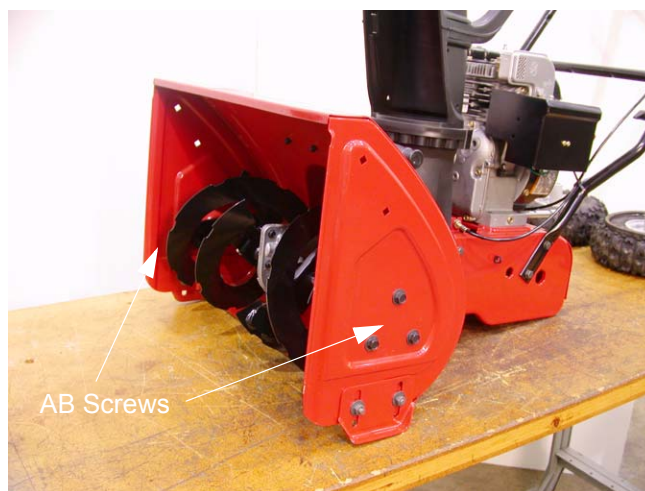

Figure 11.6
- 11.6. Using a 1/2" socket, remove the six AB Screws and bell washers securing the auger assembly to the sides of the auger housing. See Figure 11.6.